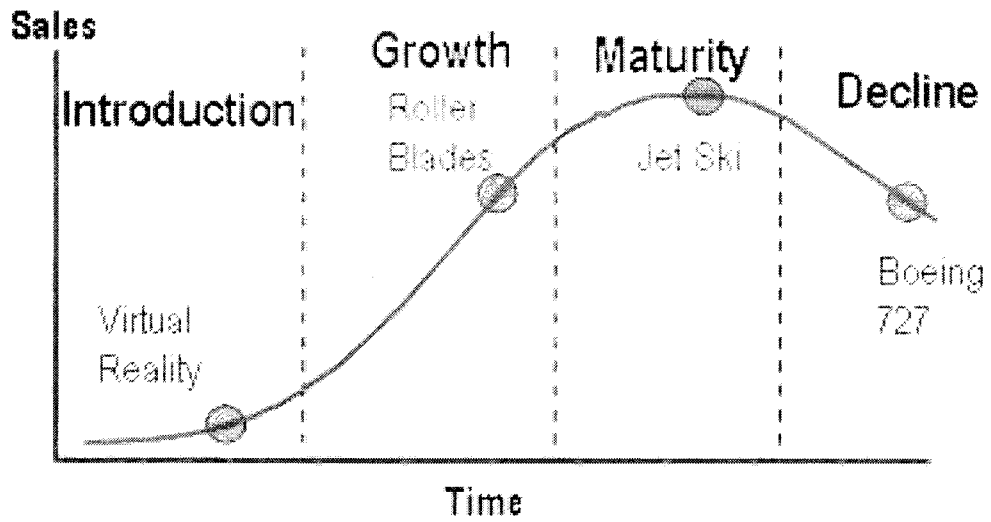

FIGURE S3
- (d) A product will going through its life cycle; introduction, growth, maturity and decline as shown in **Figure S3**. Discuss what happen to the product during the growth and maturity phase.